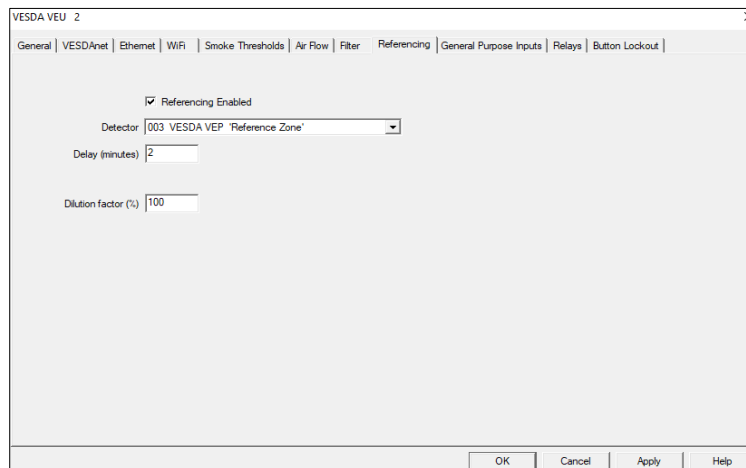

Figure 5: VSC dialog box for referencing setup
2. Select **Edit** to display the dialog box (Figure 5).
6. After testing has completed, set the *Dilution Factor (%)*: In the Dilution Factor (%) text box (Figure 5), enter a value between 1 and 100% – default is 100%.
7. After testing has completed, set the Delay (minutes): In the Delay (minutes) text box (Figure 5), enter a value between 0 and 15 minutes – default is 2 minutes.